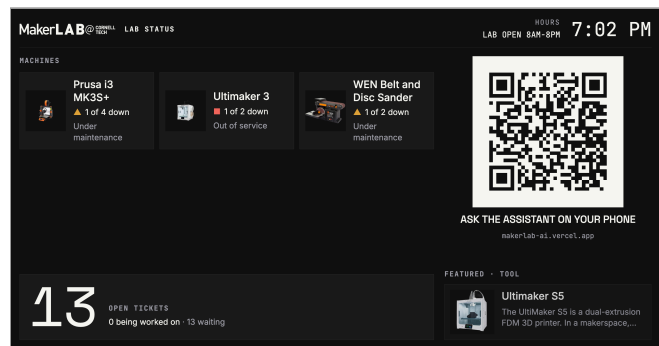

Fig. 2: The kiosk (/kiosk) on the lab's TV: machines down, open tickets, hours, a featured tool, and a QR code that opens MakerLAB AI on a visitor's phone.
**Public dashboard.** A full-screen kiosk (Fig. 2) shows down machines, open tickets, hours and a QR code that opens the assistant on a visitor's phone. At the front of the MakerLAB it engages students as they walk in, tells them which machines are up, and introduces the assistant.